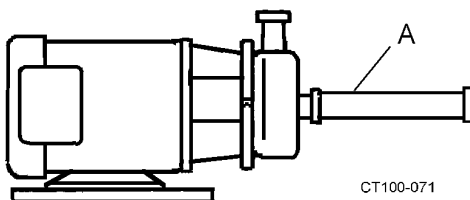

Figure 13 - Straight Pipe Length
- Maintain a straight length of pipe (Figure 13, item A) at least 8 diameters long at the pump inlet.